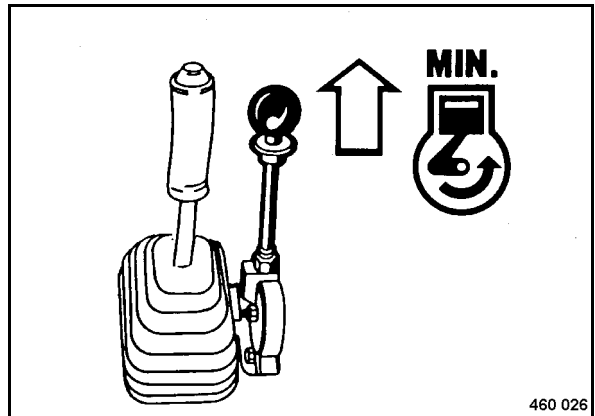

Fig. 67
- Pull the locking plate up and shift the throttle lever (Fig. 67) back to position "MIN".